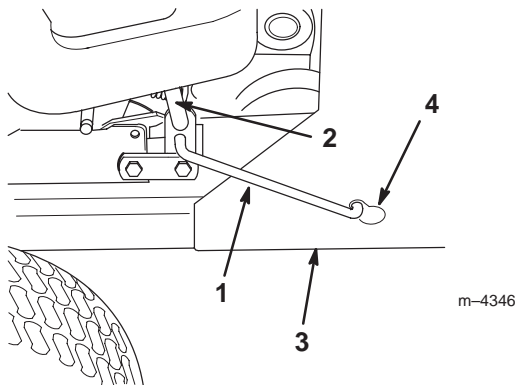

Figure 20
- On the right side of the tractor, pull forward on the spring tension lever and connect the spring tension link to the keyhole slot in the snowthrower frame (Fig. 20).